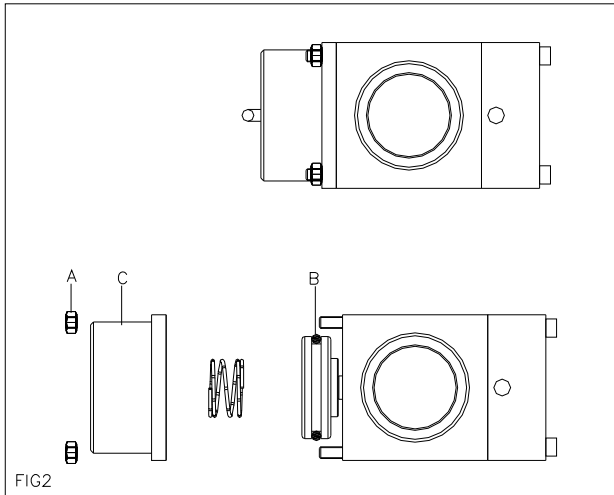

FIG2
1.First , remove the four hex nuts(FIG2 A).
2.Second , apply small amount of grease to o-ring(FIG2 B).
3.Next , apply small amount of grease to inside well of piston housing(FIG2 C).